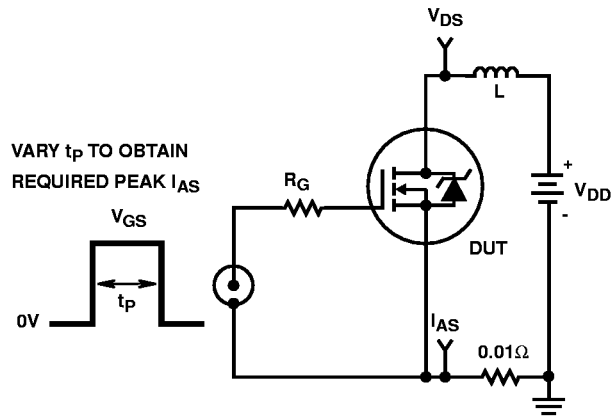

FIGURE 15. UNCLAMPED ENERGY TEST CIRCUIT
4.  $V_{DD} = 25\text{V}$ , starting  $T_J = 25^\circ\text{C}$ ,  $L = 530\mu\text{H}$ ,  $R_G = 25\Omega$ , peak  $I_{AS} = 14\text{A}$ . (Figures 15, 16).